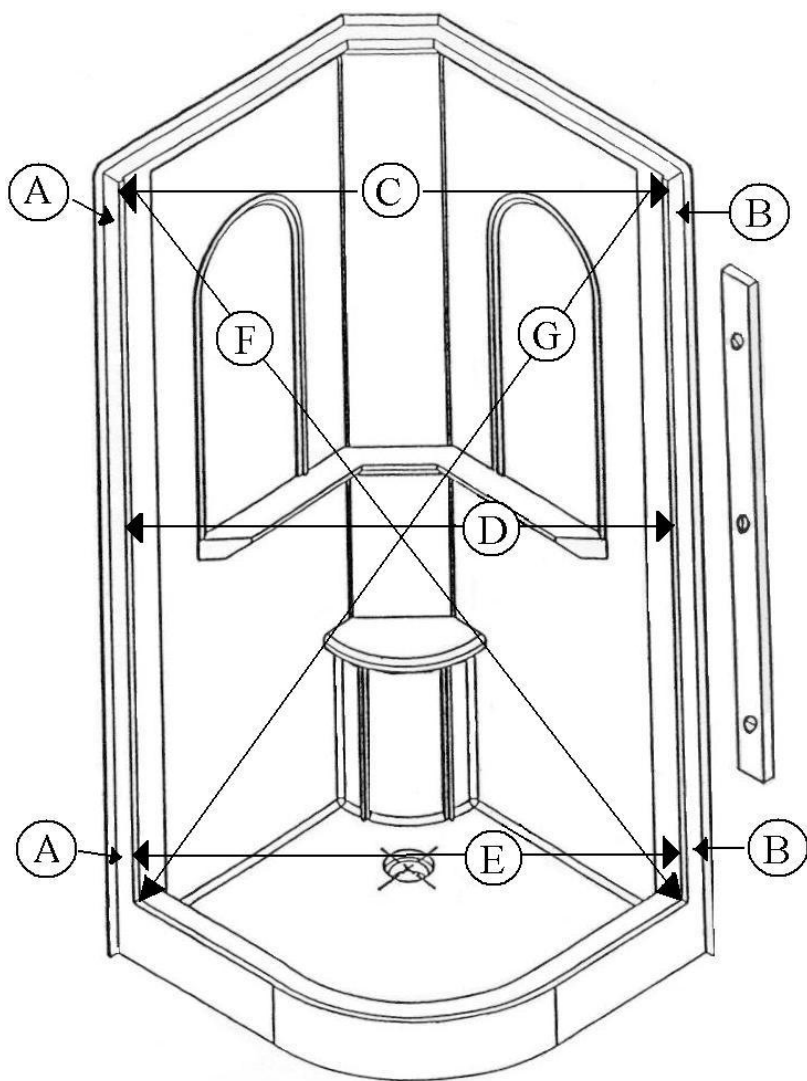

Figure 7
12. Using a 4' level, install the shower on vertical surfaces A and B, as shown on Figure 7. When the shower is perfectly leveled, secure it on the previously installed two-by-fours, using screws and washers. Always secure the shower through pre-drilled holes; installing screws directly into the acrylic can cause the acrylic to crack. If you have a shower hood, it is time to secure it to the ceiling using a screw and the perforated steel strap installed on the shower hood.